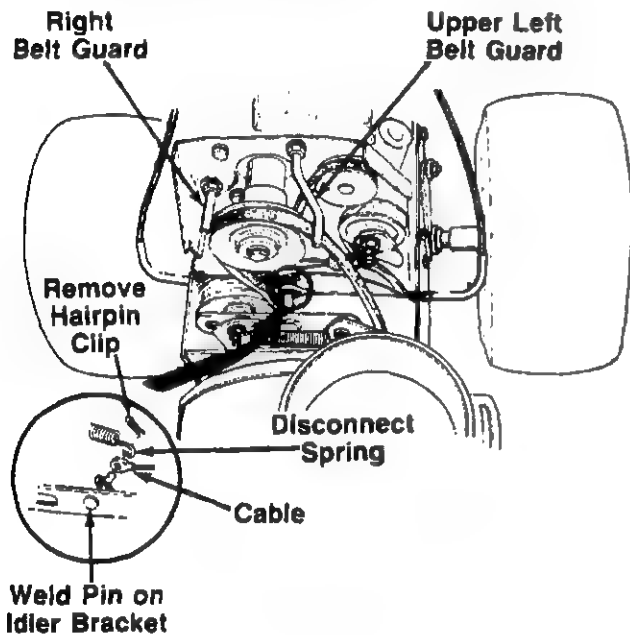

FIGURE 23.
4. Remove the hairpin clip shown in figure 23. Unhook the brake spring from the weld pin on the idler bracket.
Figure 23 is shown with the chute assembly removed for clarity only. It is not necessary to remove the chute when replacing the belts.
7. Unhook the cable from the weld pin on the idler bracket. See figure 23.